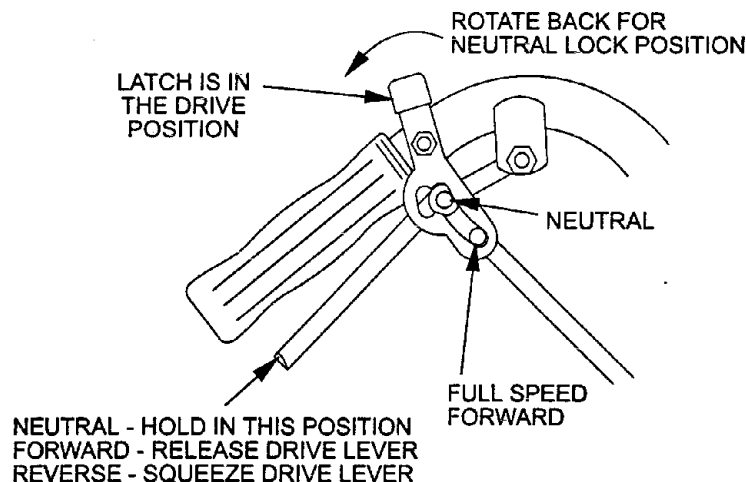

FIG. 4
4.1.1 Drive Levers: Located on each side of the upper handle assembly directly below the handle grips (See Figure 4). These levers individually control the speed and direction of each drive wheel. When the speed control lever is moved out of the neutral position and the lock latches are moved into the drive position, as shown in Figure 4, and the drive levers are released, the drive wheels are engaged in the forward direction.
4.1.2 Neutral Lock Latch: Located directly above the drive levers. These latches allow the operator to lock the drive levers in a "neutral" position where neither of the drive wheels are engaged in either a forward or reverse direction. See Figure 4.
- 4.3.3 Drive Lever/Neutral Lock Latch Operation: To lock the drive levers in neutral, squeeze the drive levers back to the neutral position (*Do Not squeeze the drive levers all the way back as this will cause the drive wheels to go into full reverse direction*). Place thumbs on the upper portion of the neutral lock latches and move them to the rear. Release drive levers (See Figure 4).
To back up, squeeze both drive levers into the reverse position (See Figure 4).